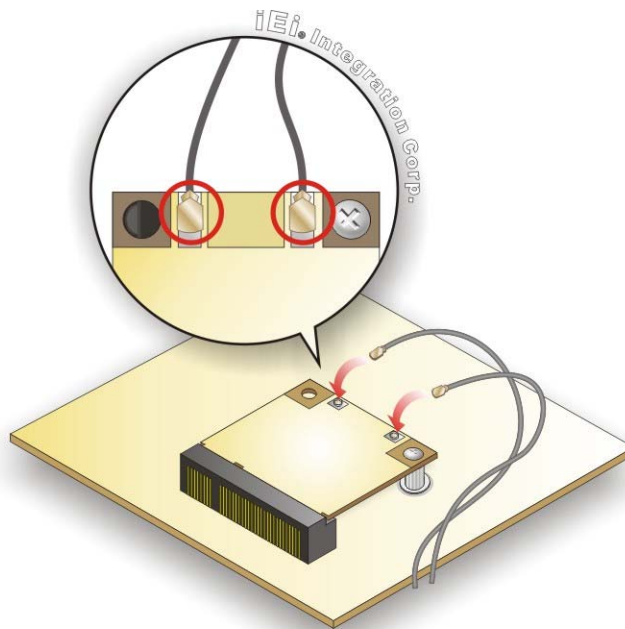

Figure 3-12: Connecting RF Cables
Step 6: Connect the two RF cables to the antenna connectors on the WLAN module (Figure 3-12).